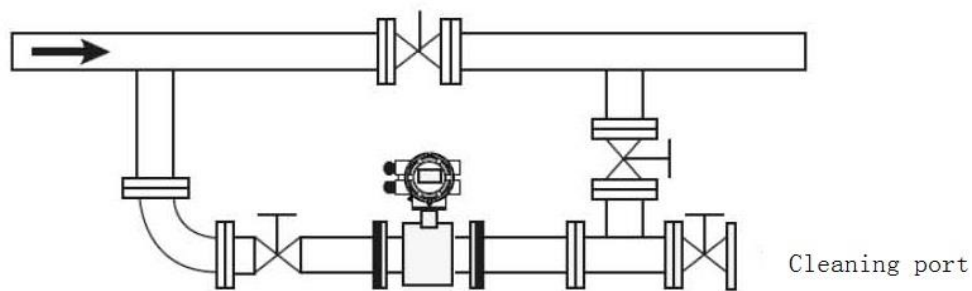

Figure 10
- The installation of the magnetic flow meter should be added to the bypass tube and cleaning port, as shown in Figure 10, this device can be withdrawn from use in the case of the flow meter, to ensure the continuous operation of the equipment system.